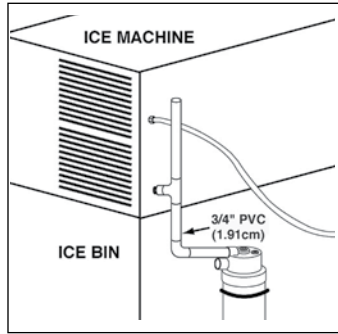

Figure 5.
- Attach a PVC line from the vent pipe at the ice machine drain outlet to the Sump Water Discharge Inlet on the Chill ICE (connection #3). Be sure to plumb a vertical line down from the ice machine drain and THEN a horizontal line to the Chill ICE (Figure 5).